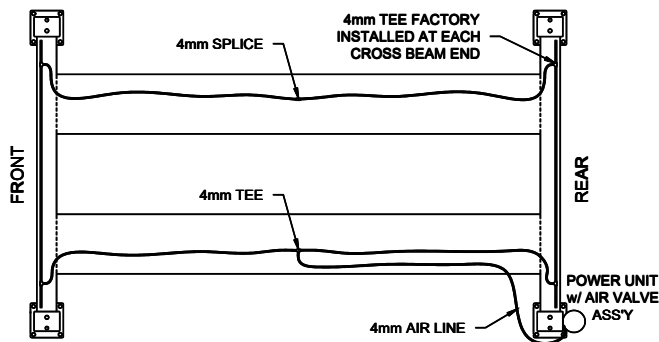

Fig 12 – Lock Release Air Line Routing
- 35) Install 4mm air line from air valve assembly thru opening in runway to Tee fitting. **Fig 12.**